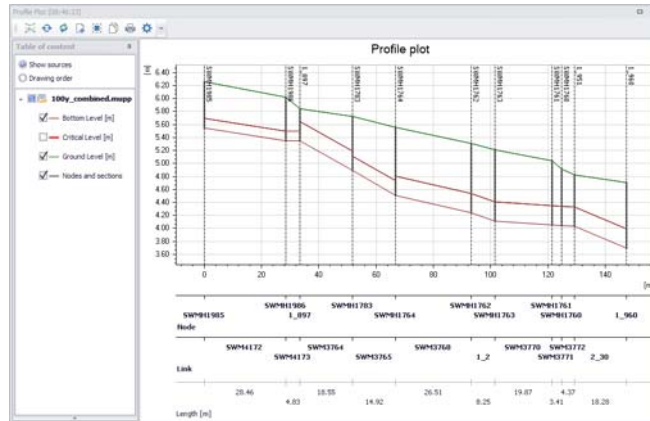

Figure 20.35 The Profile Plot form window showing an example longitudinal profile plot without simulation results
- Finally, click on 'Draw profile' on the Profile and Tracing toolbox. This will create a new profile plot (Figure 20.35).